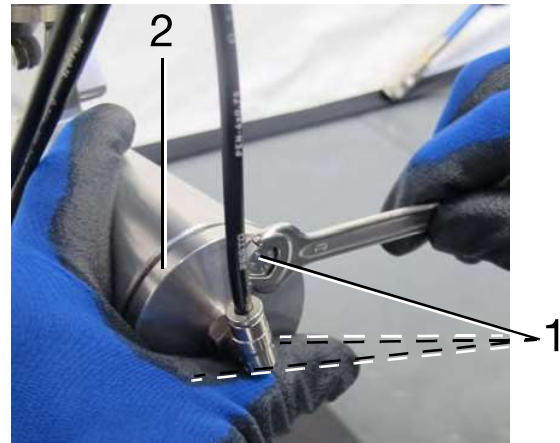

Fig. 7-7 1 Screws
- Hold the cover (2) while you unscrew the screws (1) on the cover (Fig. 7-7).